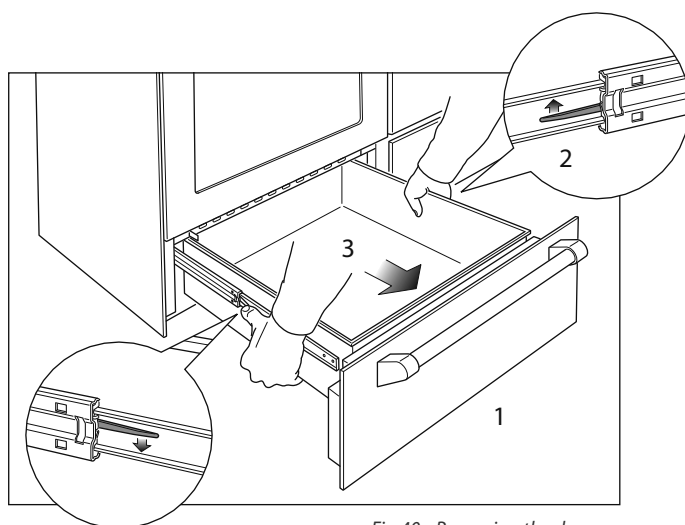

Fig.40a Removing the drawers
- 1 Open the drawer completely (Fig. 40a).